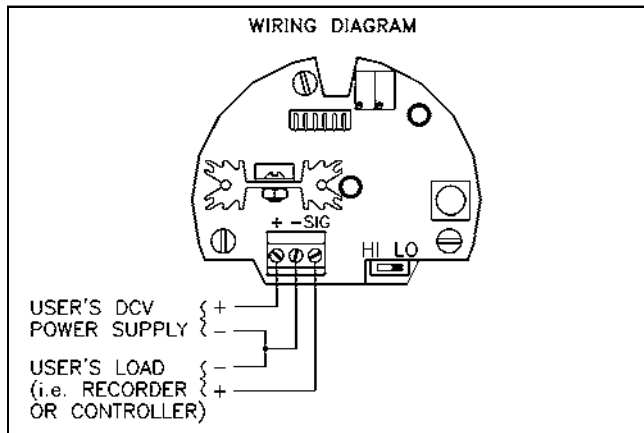

Figure 5
1) Power (see Figure 5): Two wire entries are provided for wiring convenience, especially if separation of power and output is required. Route wires through entry. While observing polarity, connect the DC voltage source to the “+” and “-” terminals located on the PCB. Improper interconnection may result in circuit damage. Connect the shield of your shielded cable to either the voltage source’s earth ground, or the ground post provided in the sensor. Connect only one end of the shield, leaving the other end unattached.
2) Output (see Figure 5): Route wires through conduit entry and connect the positive end of the analog output load to the “SIG” terminal and the negative end of the analog output load to the “-” terminal of the power supply. Note that the power source “-” and the analog output “-” are the same point. The sensor is acting as a current sourcing device. Isolation is provided between the sensor’s housing ground and the “-” terminal on the sensor’s PCB. See specifications for isolation value. The power source therefore provides the energy to operate the sensor and the energy needed to generate the current loop.